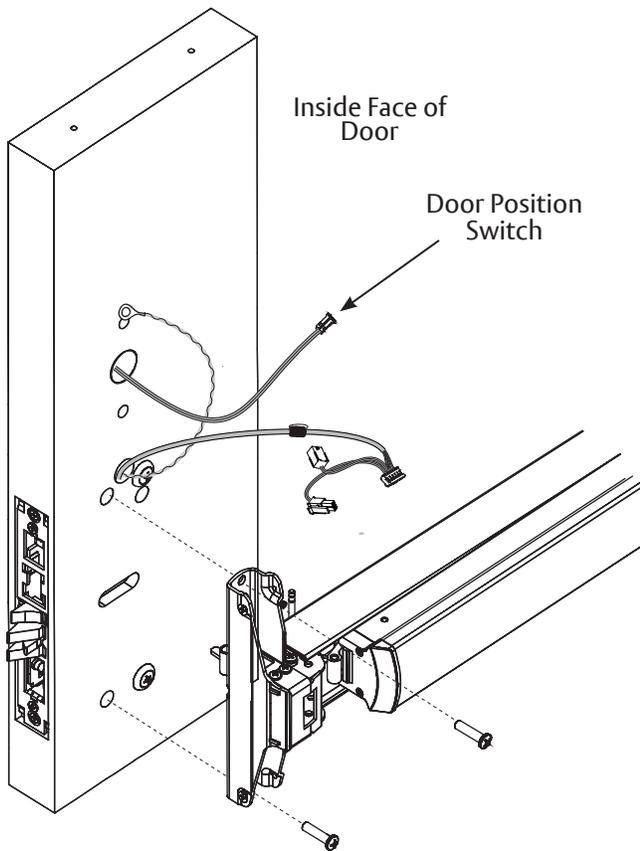

Figure 14a
1. Seat device against door being careful to align transfer bar with retractor in lock body - See Figure 14a.
2. Fasten device to trim assembly using (2) 1/4-20 pan head screws (Figure 14a).